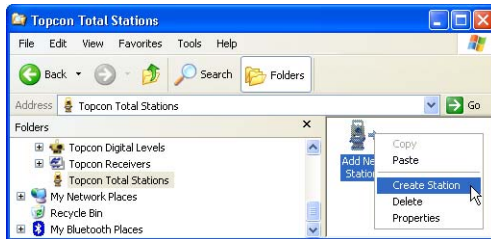

Figure 8-9. Creating a New Station in Windows Explorer
1. Open Windows Explorer and click the folder Topcon Total Stations. The *Topcon Total Stations* dialog box displays. The right side of the window displays the 'Add New Station' icon. To add a new device right click this icon and select *Create Station* on the pop-up menu (Figure 8-9).